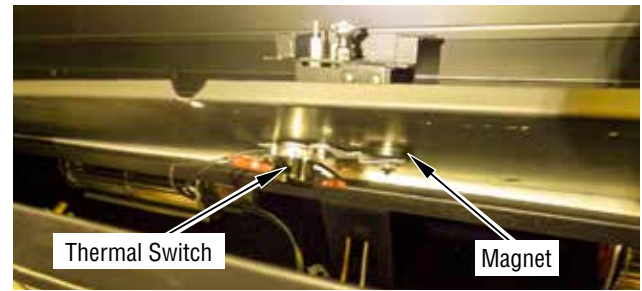
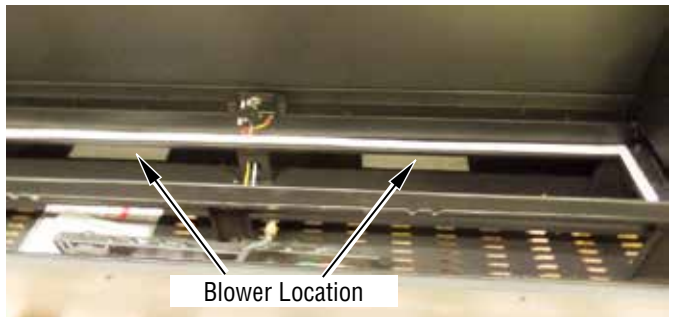

Figure 14 - Attaching Thermal Switch
Figure 15 - Blower Location
5. Attach the thermal switch magnetic bracket to the bottom of the previously removed firebox bottom cover. The thermal switch must be orientated on the firebox bottom as shown in **Figure 14**, in order to properly operate. The blowers will be held in position against the base by the magnets incorporated onto the blower housing (**Figures 15 and 16**).